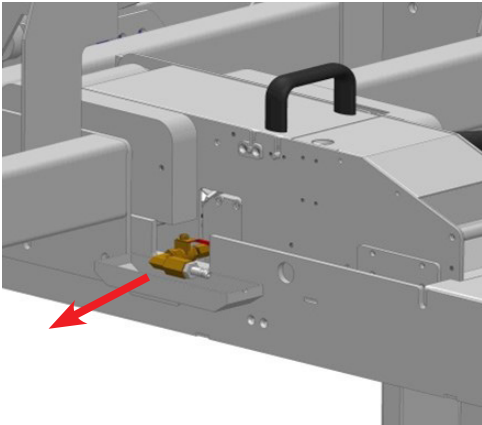

Figure 51: Remove Water Pot
4. Remove water pot from tape head, (refer to Figure 51).